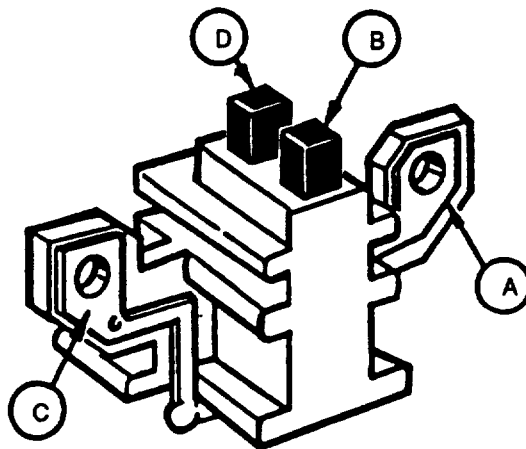

**FIGURE 3-7. Stator and Rear Housing Separation**
- f. Remove bolts (16), diode-trio (17), strap (14), and rectifier bridge (18) from rear housing (20).
- g. Match mark front and rear housings, and remove through bolts (19). Insert two flat tip screwdrivers in opposite openings between stator (22) and rear housing (20), refer to FIGURE 3-7.